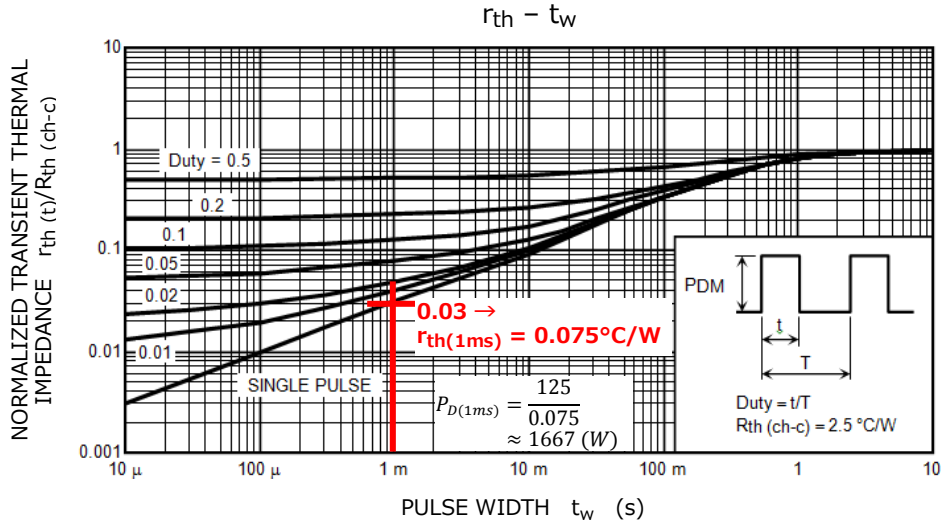

Figure 3.3 Transient thermal impedance curves
The power dissipation at  $t_w = 1$  ms,  $P_D(1\text{ ms})$ , is calculated to be roughly 1667 W from the transient thermal impedance curves shown in Figure 3.3. The points through which the derating lines for the thermal limitation at  $T_c = 100^\circ\text{C}$  ( ④' to ⑤' ) and the secondary breakdown limitation ( ⑤' to ⑥' ) pass can be calculated in the same manner as for the  $T_c = 25^\circ\text{C}$  ( DC operation ) line.